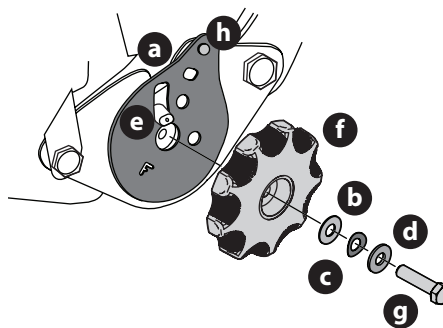

Fig. 13
7. Remove the seat tilt knob assembly from the bag and install (Fig. 13).
**NOTE:** Be sure to orient the recliner plate (a) and install the plastic washer (b), spring washer (c) and metal washer (d) (Fig. 13). The plastic washer is on the inside.
8. Slide the recliner bearing plate (a) onto the recliner pin (e) (Fig. 13).
10. Use a wrench to hand tighten the hex screw (g) until the recliner knob (f) is difficult to turn (Fig. 13).
11. Gradually loosen the hex screw (g) until the recliner knob moves freely. Do not loosen the hex screw (g) more than one full turn (Fig. 13).
12. Securely install the 1/4" nut onto the clinch-stud (h) and rotate the recliner knob to check the operation of the seat (Fig. 13).